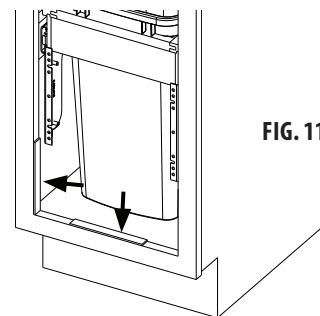

FIG. 11
12. Cut and mark shims to the (2) thicknesses from step 11. (Used to center the door in opening).
13. Peel off one side of each of the (2) tape strips provided and carefully place over the door bracket flanges.
14. Peel off the second side of each of the (2) tape strips.
15. Place bottom shim on lip of face frame and place side shim on either side of face frame. (see fig. 11) Note: Use tape to hold shims in place.